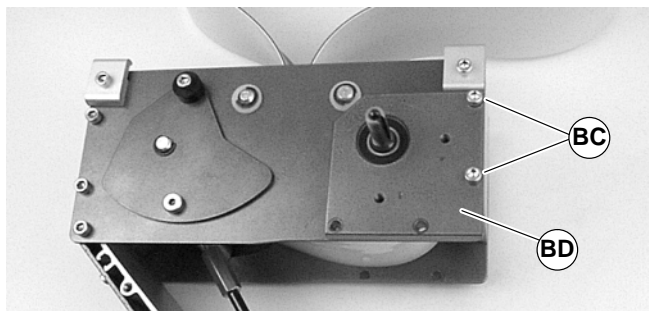
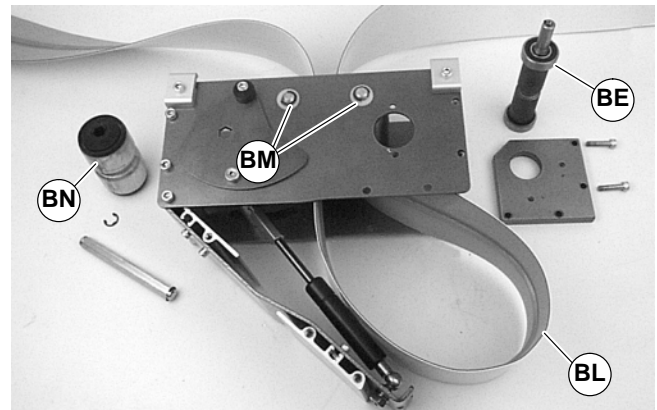

Figure 27
Figure 33
1. Remove drive plate screws (BC of Figure 27). Remove the tension drive plate (BD).
2. Place loop of belt (BL of Figure 33) into the drive module between top idler pulleys (BM).
3. Place grooved idler pulley (BN of Figure 33) into the belt loop and install it in the drive module. Refer to "Belt Removal from Drive Module" on page 12 and reverse step 3.
4. Place drive pulley (BE of Figure 33) into the belt loop and install it in the drive module. Refer to "Belt Removal from Drive Module" on page 12 and reverse steps 1 and 2. Tighten screws (BC of Figure 27) to 80 in-lb (9 Nm).